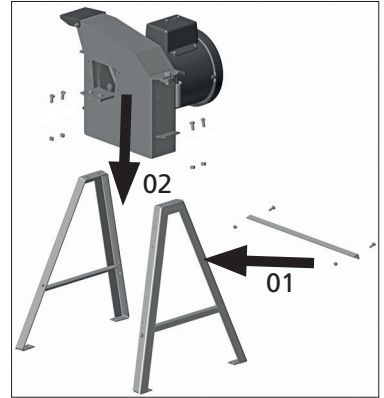

Fig. 01
Attach the supporting rod (1) to the back of the trestles using M6 x 16 mm screws. Assemble the body of the machine on top of the trestles using M8 x 20 mm screws (2), [Fig. 01].